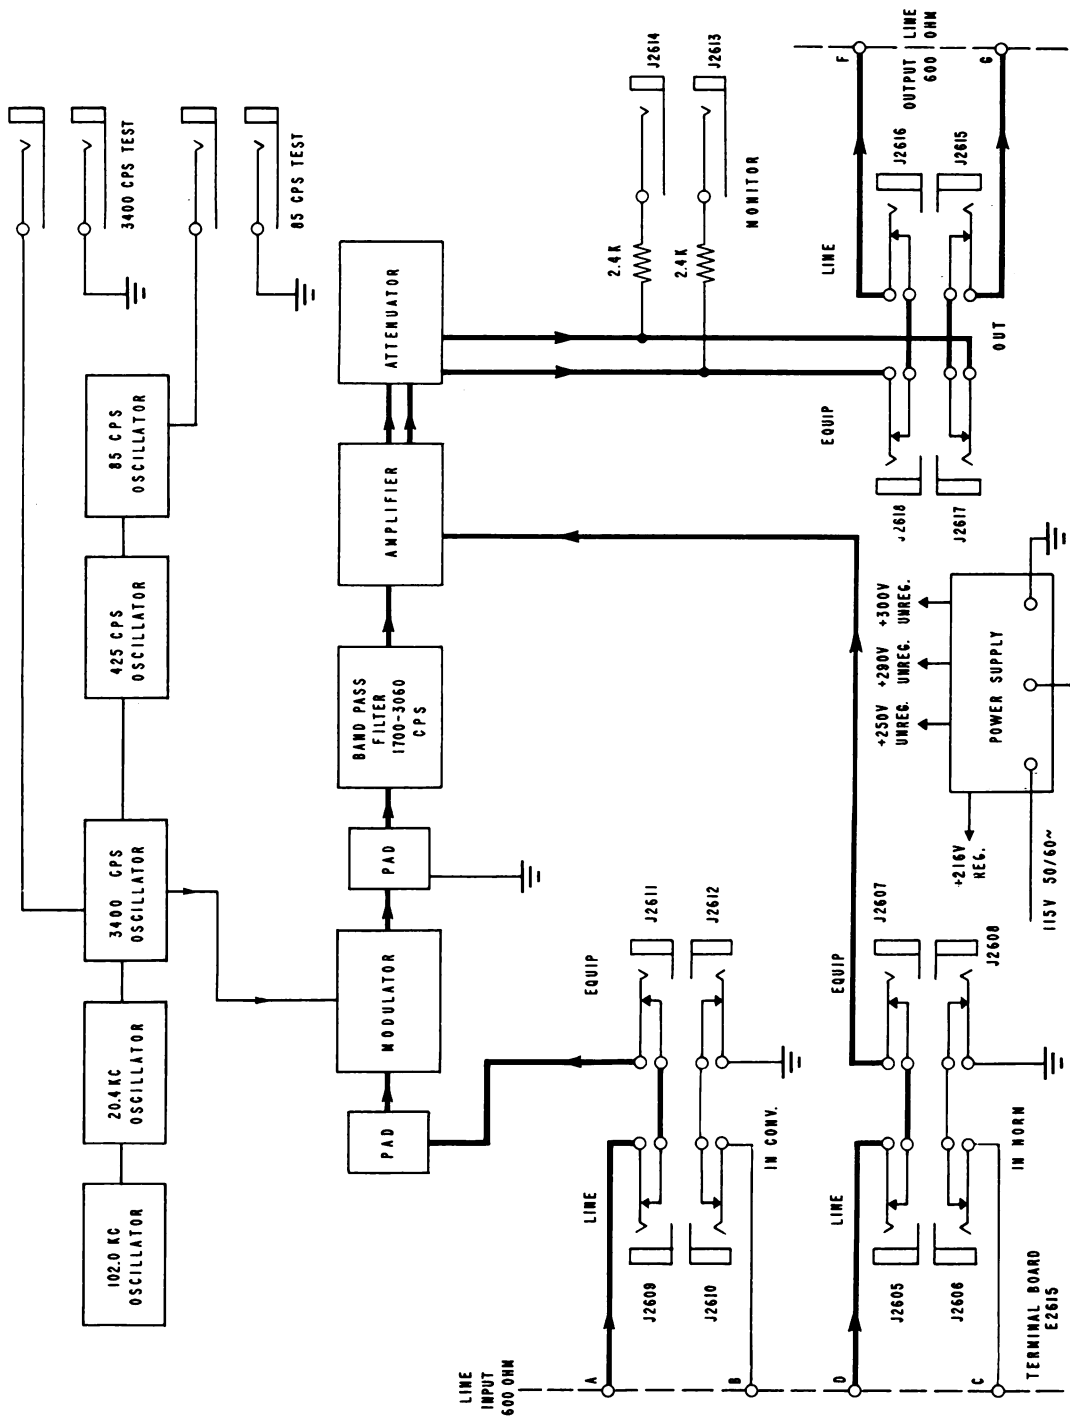

Figure 2-16. Block Diagram of Electronic Frequency Converter CV-243/FCC-3
a. BLOCK DIAGRAM. - Figure 2-16 shows the principal circuits of Electronic Frequency Converter CV-243/FCC-3. The input audio signals in the frequency range of 382.5 to 1657.5 cycles are attenuated and applied to the modulator diode bridge, which is also supplied by a 3400 cycle crystal controlled carrier frequency. From the output of the modulator the signal is impressed